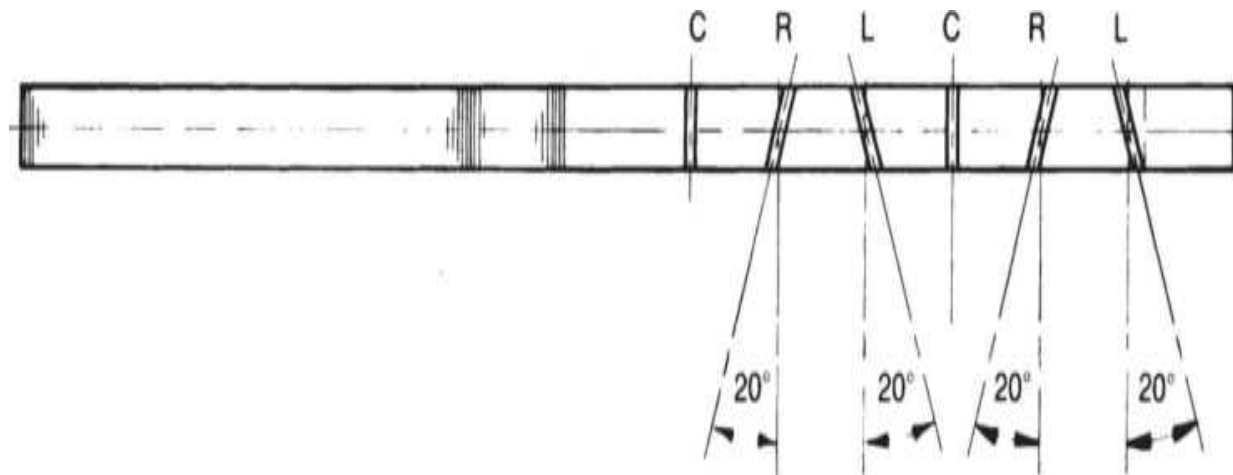

**Figure 8.25** Angles of cuts in an original Medeco key.
In addition to the dimensions above, each cut in a Medeco key may be cut with any one of three angular rotations. These rotations are designated as right (R), left (L), or center (C). When you look into the cuts of a Medeco key as illustrated in Figure 8.25 , concentrating on the flats of the cut, you will notice that flats that are positioned